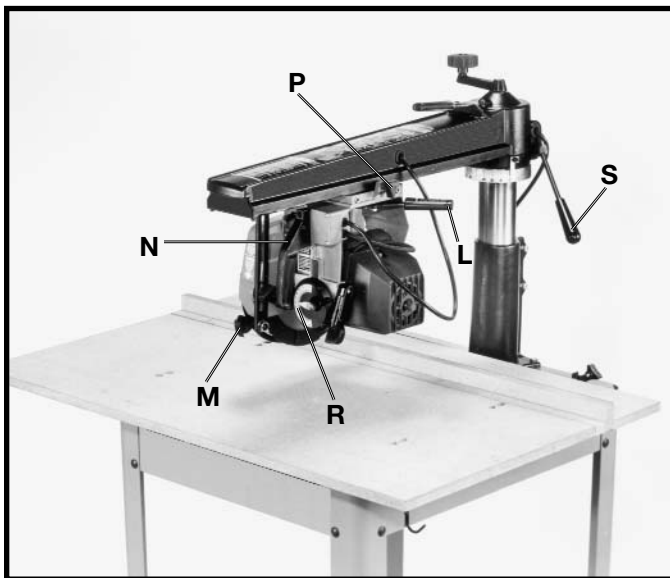

Fig. 75
L. YOKE CLAMP HANDLE. The yoke clamp handle must be loose when rotating the yoke between the rip and cross-cutting position. Pull the handle to release and push it to lock. Fig. 75
M. ANTI-KICKBACK DEVICE. When ripping, the yoke is positioned and clamped so that the blade is parallel to the fence. The rear of the blade guard is rotated until it almost touches the workpiece. The anti-kickback rod is then lowered so that the fingers catch and hold the workpiece. Never rip from the anti-kickback end of the blade guard. Fig. 75
N. ON-OFF SWITCH. Conveniently located switch can be turned on or off in an instant for added operation protection. Switch also can be locked in the off position to prevent unauthorized use using an accessory padlock. Fig. 75
P. CUTTING-HEAD CLAMP KNOB. Locks cutting-head at any position on the track arm. When ripping the cutting-head, clamp knob must be tight. Fig. 75
R. BEVEL SCALE. Indicates degrees of rotation for setting motor bevel positions. Fig. 75
S. TRACK ARM CLAMP HANDLE. Controls rotation of track arm for all miter cutting operations. Locks track arm at any miter angle position. To rotate track arm to the right, loosen clamp handle and rotate arm. The arm will stop at 45 degrees. To rotate past 45 degrees, depress indexing release handle and continue to rotate; arm will only rotate an additional 5 degrees. To rotate to the left, the operation is the same except the indexing release handle must be depressed to start rotating. Fig. 75